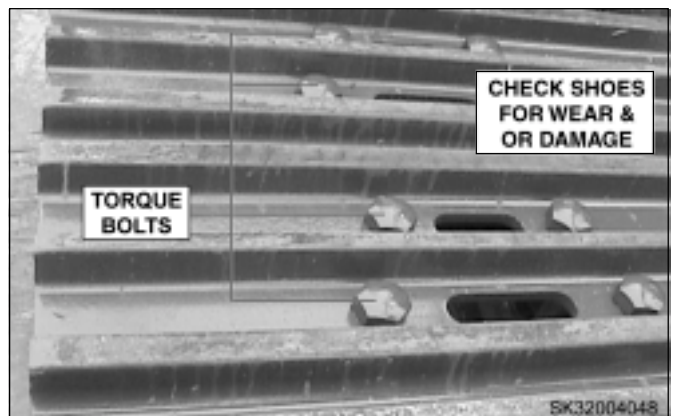

FIGURE 4.18D
- c. Check tightness of shoe mounting bolts and nuts. If loose, remove bolt, clean thread, apply engine oil and torque to  $853 \pm 27 \text{ N}\cdot\text{m}$  ( $628 \pm 36 \text{ ft}\cdot\text{lbs}$ ). See Figure 4.18D.